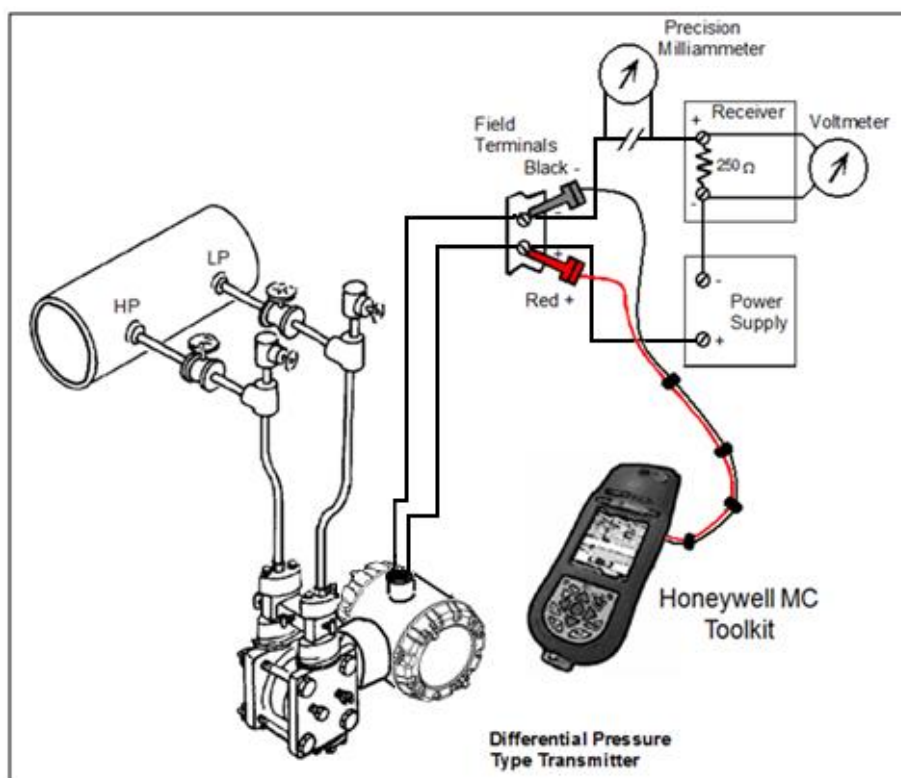

Figure 56 – ST 700 Basic Transmitter - Current Loop Test Connections
10. Refer to Figure 56 for test connections. Verify the integrity of electrical components in the output current loop.
1. Connect a current meter or voltmeter as shown in Figure 56 to monitor the PV output of the Transmitter.